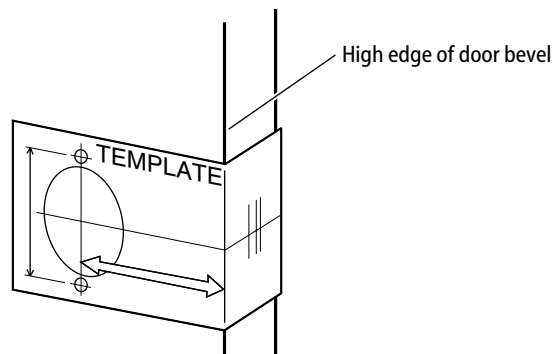

Figure 2 — Placing the template on the high side of the door bevel
- 1 Fold the template and place in position on the high edge of the door bevel (see Figure 2).